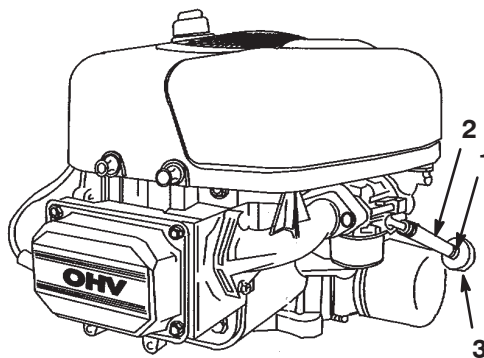

Figure 28
5. Squeeze the ends of the hose clamp together and slide it up the fuel line toward the fuel tank (Fig. 28).
6. Pull the fuel line off of the filter (Fig. 28) and allow the gasoline to drain into a gas can or drain pan.
The best time to replace the fuel filter (Fig. 28) is when the fuel tank is empty. Never install a dirty filter if it is removed from the fuel line.
4. Squeeze the ends of the hose clamps together and slide them away from the filter (Fig. 28).